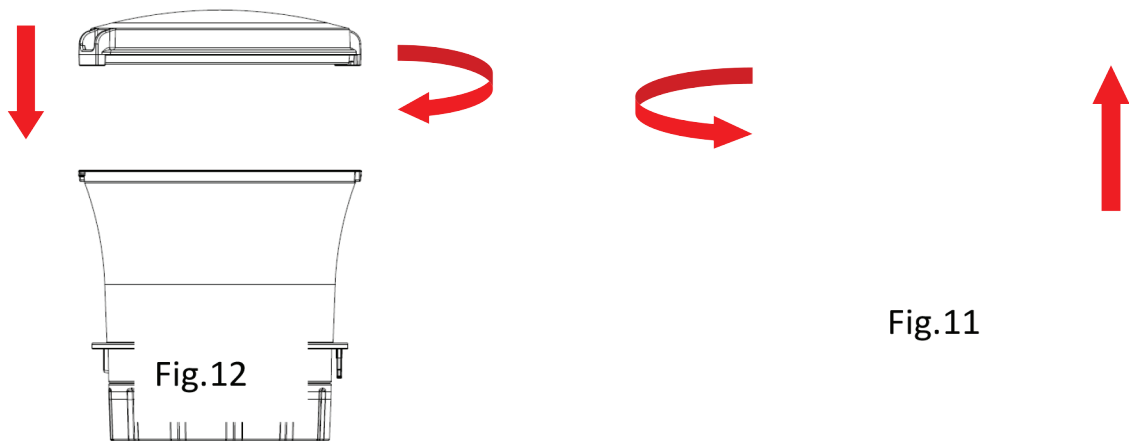

Fig.11
7. Disconnect from power supply once finished. Disassemble the chopper bowl from the unit, turn bowl lid anticlockwise (see fig.11), then empty the bowl and serve.